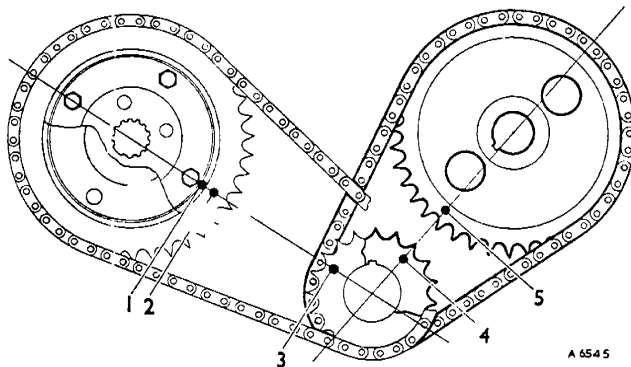

Fig. A.12
- Carry out the procedure in (1) to (14).
- (15) Rotate the crankshaft until the timing marks on both camshaft driving chain wheels are in the position shown in Fig. A.12.
- (16) Unscrew the nut from the end of the camshaft, using tool 18G 98 A.
- (17) Unscrew the two bolts and remove the camshaft driving chain tensioner.
- (39) Reverse the procedure in (16) to (19), noting the following points:
- (b) When the driving chain and wheels are assembled to their respective shafts ensure that the timing marks line up as shown in Fig. A.12.
- (40) Reverse the procedure in (9) to (14), noting the following points:
- (a) Check and adjust the chain wheel alignment as described in (39) (a), but in this case the teeth faces should be in line.
- (b) The timing marks on both chain wheels and on the injection pump driving flange should be positioned as shown in Fig. A.12 when they are assembled to the engine.
- (c) Refit the chain tensioner as described in (39) (c).
- (17) Fit the main bearings and thrust washers to the crankcase and caps, fit the crankshaft and caps to the crankcase; tighten the main bearing cap bolts to the torque figure given in 'GENERAL DATA'.
- (18) Refit the front plate and timing gear by reversing the procedure in Section A.9, (25) to (28), (7) to (19), and (2) to (5), noting the following points:
- (a) Check the chain wheel alignment as described in Section A.9, (39) (a) and (40) (a).
- (b) Refit the timing chain tensioners as described in Section A.9, (39) (c).
- (c) Ensure that the timing marks line up as shown in Fig. A.12.
- (19) Ensure that the connecting rod big-end bearings are correctly located in the rods and caps. Refit the connecting rods to the crankshaft noting that the bolt heads should be towards the camshaft side of the engine, and tighten the bolts to the torque figure given in 'GENERAL DATA'.